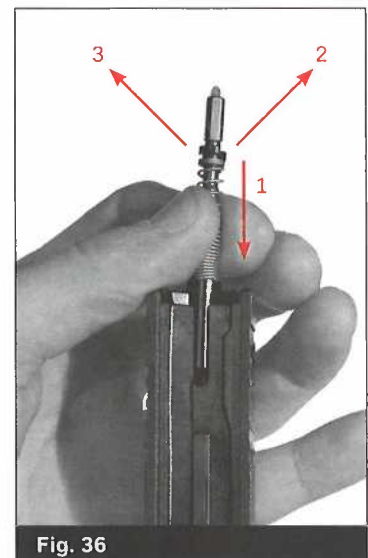

Fig. 36
- With the firing pin assembly reversed and installed in the firing pin channel cut and with the lug turned to one side, grasp the firing pin spring just below the spring cups. Using your thumb and forefinger, pull downwards on the spring as far as possible to allow the spring cups to fall clear. If they do not release, pull them away with your other hand. (Fig. 36)